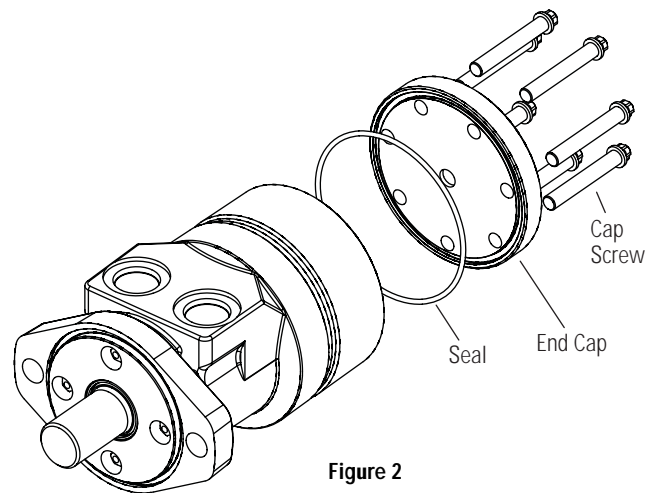

Figure 2
3. Remove end cap, see figure 2.